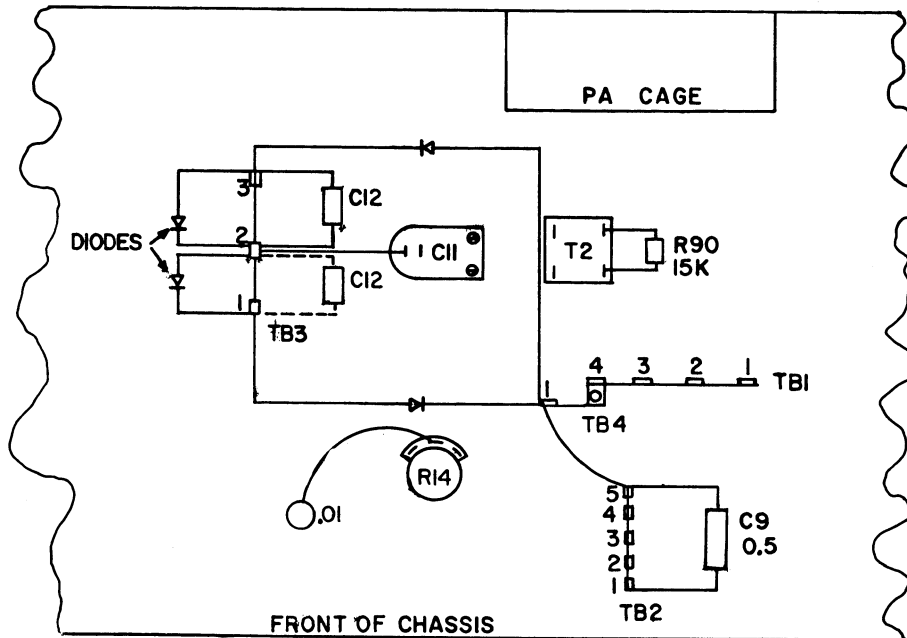

Figure 2. Simplified Layout of Underside of Chassis -
4. Remove retaining screw from terminal strip TB1, and mount new terminal strip (306 0299 00), TB4, and TB1 with same screw. Refer to figure 2.
6. Install #22 wire (439 7031 00) from TB4-1, the new terminal strip, to TB2-5. Refer to figure 2.
7. Install one 1N34A diode (353 0103 00) from TB4-1 to TB3-3 so that arrowhead on diode points toward TB3-3; install other 1N34A diode (353 0103 00) from TB3-1 to TB4-1 so that arrowhead on diode points toward TB4-1. Make sure arrowheads point as indicated. Refer to figure 2.